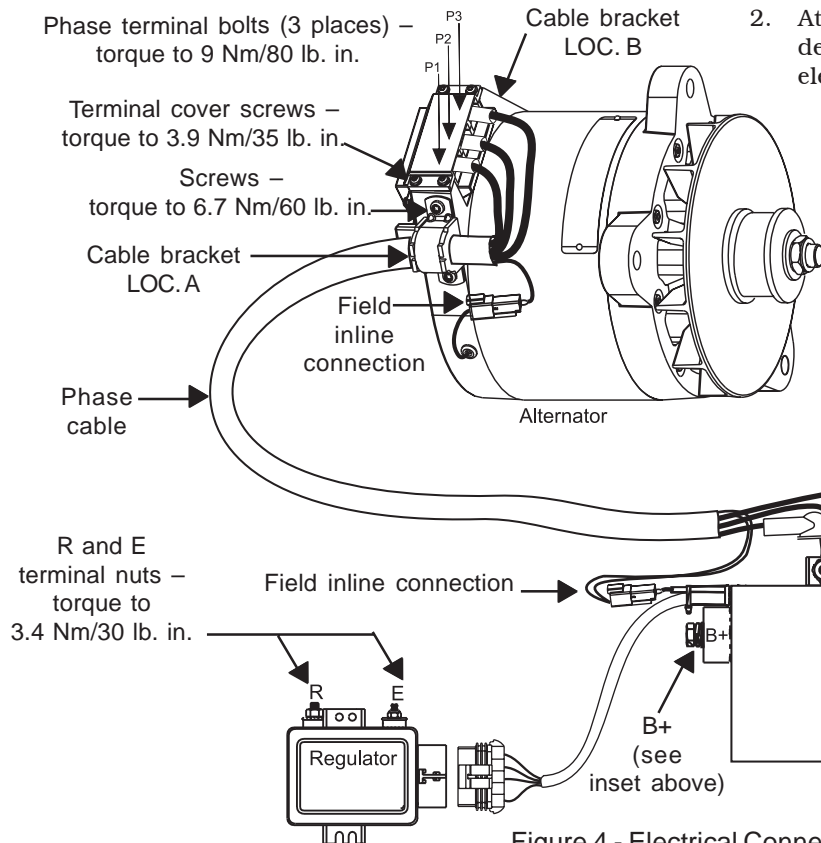

Figure 4 - Electrical Connections
- b. Connect phase cable into terminal block on top of alternator either through anti-drive end (as shown in Figure 4) or through drive end:
- 1) Run phase cable through cable bracket mounted in one of two locations (LOC. A or LOC. B). See Figure 4.
2. Connect remaining harnesses between components as shown in Figure 4. Use torque values shown.